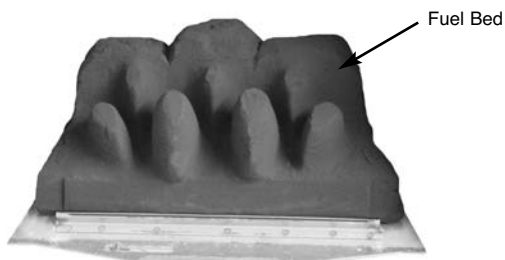

Fig. 21
1. Place the main fuel bed on to the middle section of the metal burner tray. It is important that the front edge of the fuel bed is located behind the burner strip (Fig. 21).